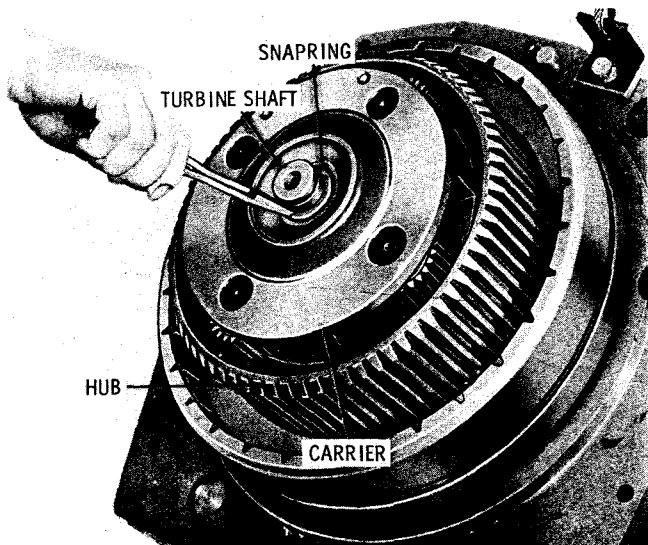

Fig. 7-51. Installing snapring that retains splitter planetary (CBT, CLBT, VCLBT)
(20) Carefully tip the retarder housing so that the rotor end of the turbine shaft rests on the work table (fig. 7-51). Install the splitter planetary carrier assembly and splitter clutch hub onto the turbine shaft. Install the snapring onto the end of the turbine shaft.